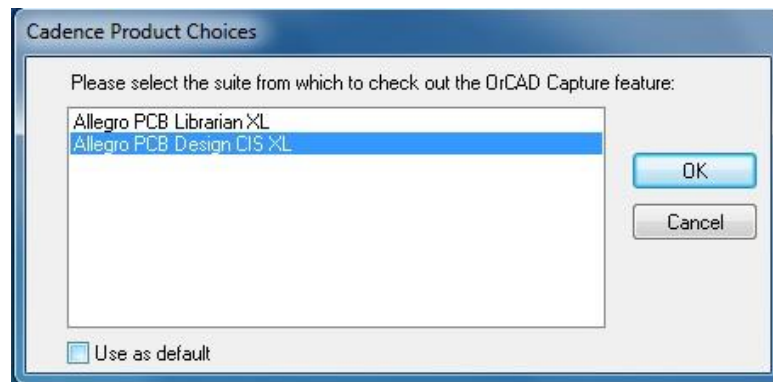

Figure 1 - Studio Suite Selection
- If prompted with Studio Suite Selection, choose PCB design expert with Capture CIS (see Figure 1) from the drop-down menu. You might not see this window at all in some versions, and that's fine.